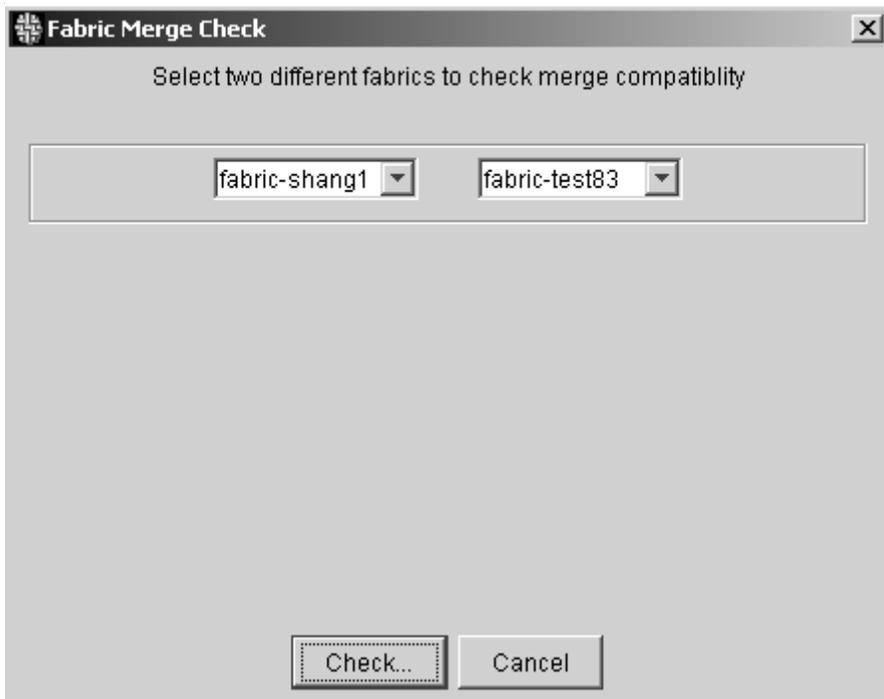

Figure 7–8: Fabric Merge Check dialog box
1. Choose **Tools > Fabric Merge**. The **Fabric Merge Check** dialog box displays, as shown in Figure 7–8